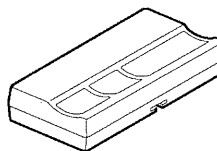

Figure 1
1. Press and *hold* the selected remote control push button. See Figure 1.